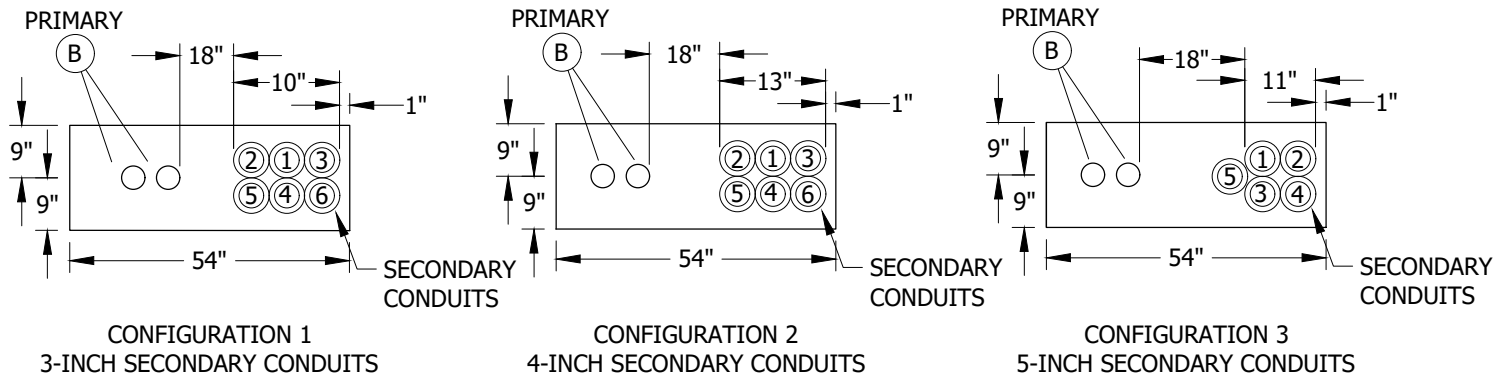

FIGURE 2
- (A) 1-INCH EARTH IN THE BOTTOM OF THE TRENCH IS REQUIRED TO PREVENT DAMAGE FROM ROCKS, SAGS OR POCKETS.
- (B) PLACE ALL SECONDARY CONDUITS WITHIN THE PAD OR HANDHOLE OPENING AS SHOWN IN FIGURES 2 & 3. TERMINATE PRIMARY OR SECONDARY CONDUITS FLUSH WITH TOP OF THE PAD. WHEN A HANDHOLE IS REQUIRED FOR SECONDARY CONDUITS, TERMINATE THEM NOT LESS THAN 3 INCHES ABOVE BOTTOM OF HANDHOLE. DO NOT CUT INTO THE CURVED PORTION OF THE ELBOWS. RADIUS OF CURVATURE IS 36 INCHES MINIMUM FOR 3-INCH, 4-INCH AND 5-INCH CONDUITS.
- (C) THE CONDUIT CONFIGURATION REQUIREMENT BETWEEN TERMINATING POINTS LIMITS THE SECONDARY CONDUIT CONFIGURATION TO TWO WIDE X SIX DEEP OR SIX WIDE X TWO DEEP (NO ONE CONDUIT IS TO BE COMPLETELY SURROUNDED ON ALL FOUR SIDES BY OTHER CONDUITS) USING SPACERS AND 1 SACK CONCRETE SLURRY BACKFILL. CONDUITS MAY ALSO BE INSTALLED SIDE BY SIDE ON THE BOTTOM OF THE TRENCH WITHOUT SPACERS OR CONCRETE SLURRY (FOUR CONDUITS MAX.). IN THE TRANSITION AREA WHERE THE CONDUITS FROM THE BOTTOM OF THE TRENCH START TOWARD THE SURFACE (THE STRAIGHT PORTION BY THE 90° BEND), SPACERS MAY BE REQUIRED TO ALLOW THE 90° BENDS TO ENTER STRAIGHT INTO THE PAD OPENING. AT THE SURFACE POINT, THE CONDUITS MAY BE BUNDLED TOGETHER. USE SDG&E APPROVED BASE, SHADING AND BACKFILL.